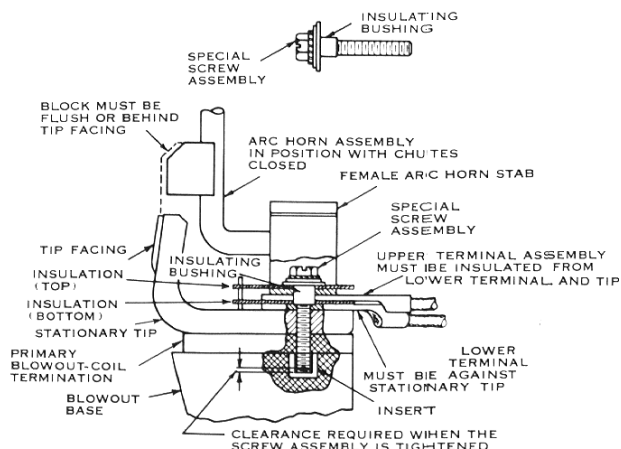

Fig. 47. Blowout-coil connection assembly
- (b) The auxiliary-coil terminals and insulation must be assembled as shown in Fig. 47.
4. Copper block on arc horn must be flush or behind tip facing as shown in Fig. 47.